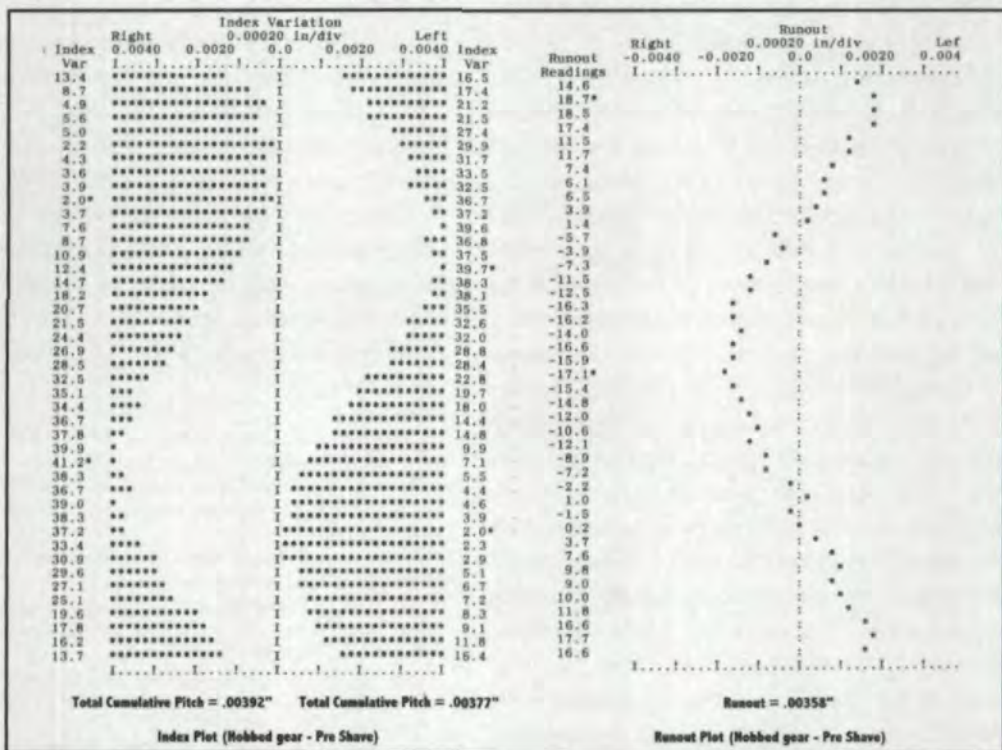
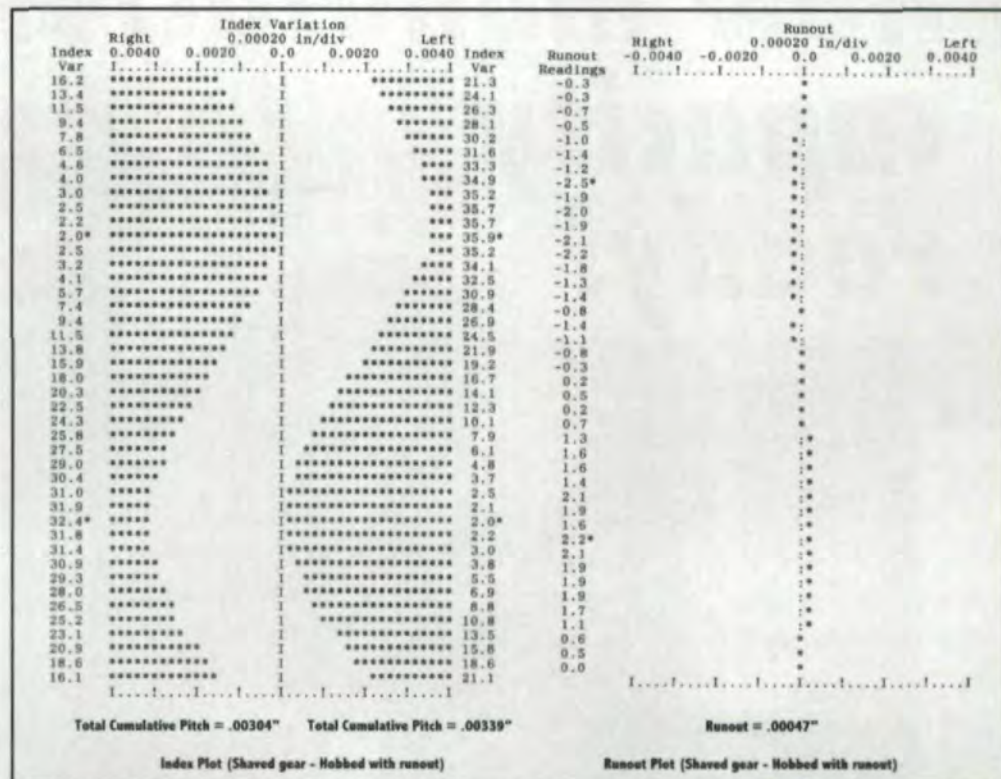

Fig. 1—Precision index check of pitch and accumulated pitch after hobbing.
Fig. 2—Precision index check of pitch and accumulated pitch after shaving, hobbed with runout.
error can find the problem. See Figure 1 for a test of such a gear after hobbing. See Figure 2 for the results of the same gear after shaving. Runout has been removed, but the accumulated pitch error still exists. Figure 3 shows the same gear checked by a single-flank composite gear tester. This is a true measure of transmission error (TE) or variation in angular motion. Double-flank composite testers only measure radial motion. Unfortunately, gears do not operate in a radial mode; they operate tangentially.